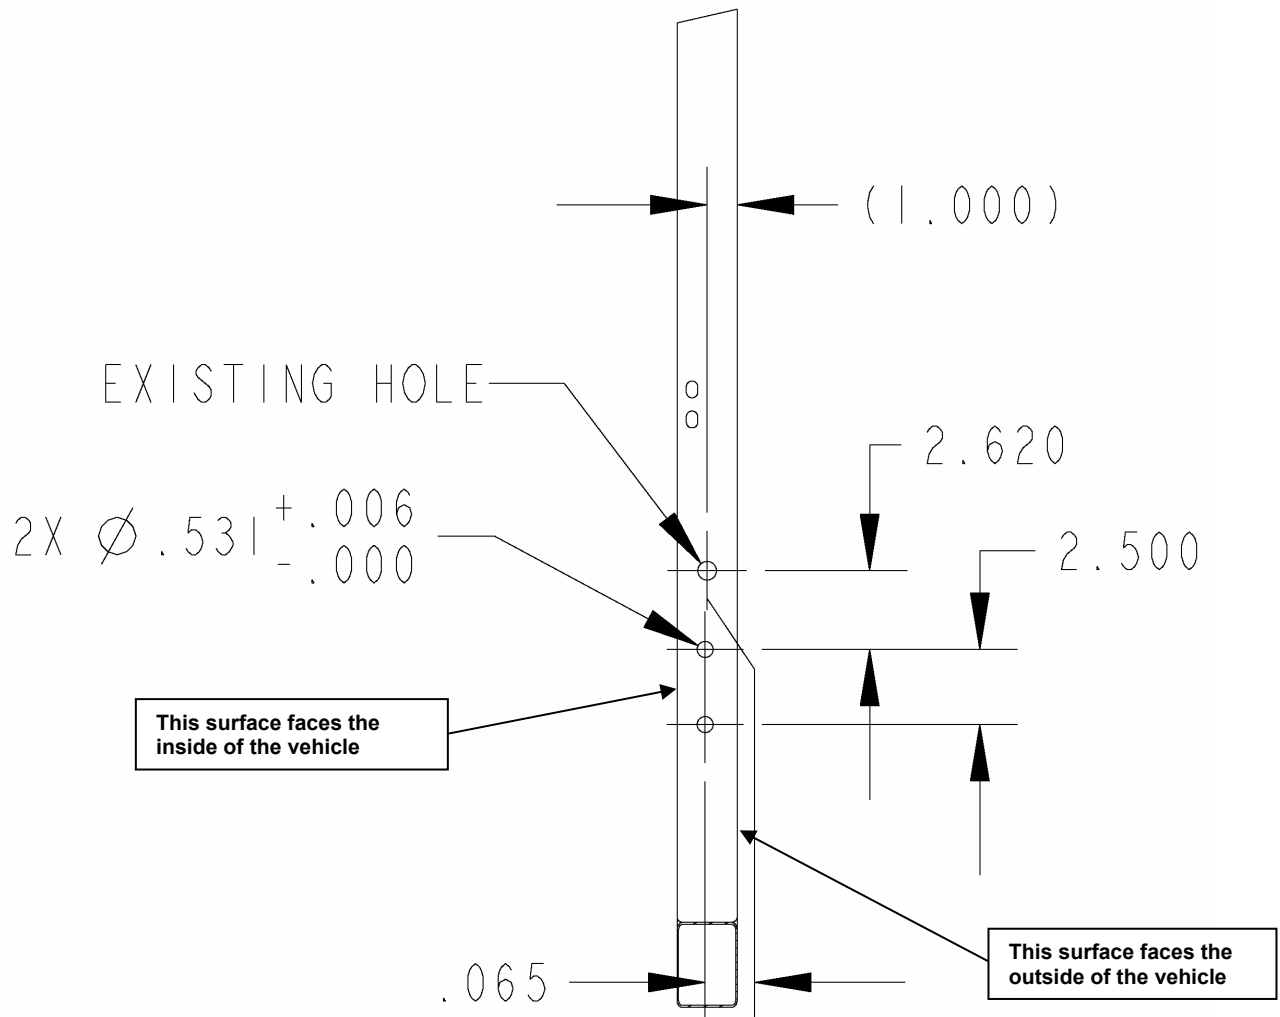

Figure 27. Door Striker Support Hole locations.
- r) Locate and mark the holes for the Door Striker Support using a center punch and a hammer, as shown in Figure 27. The Door Striker Support should butt up against the bottom edge of the Door Striker Base, adjust as required.